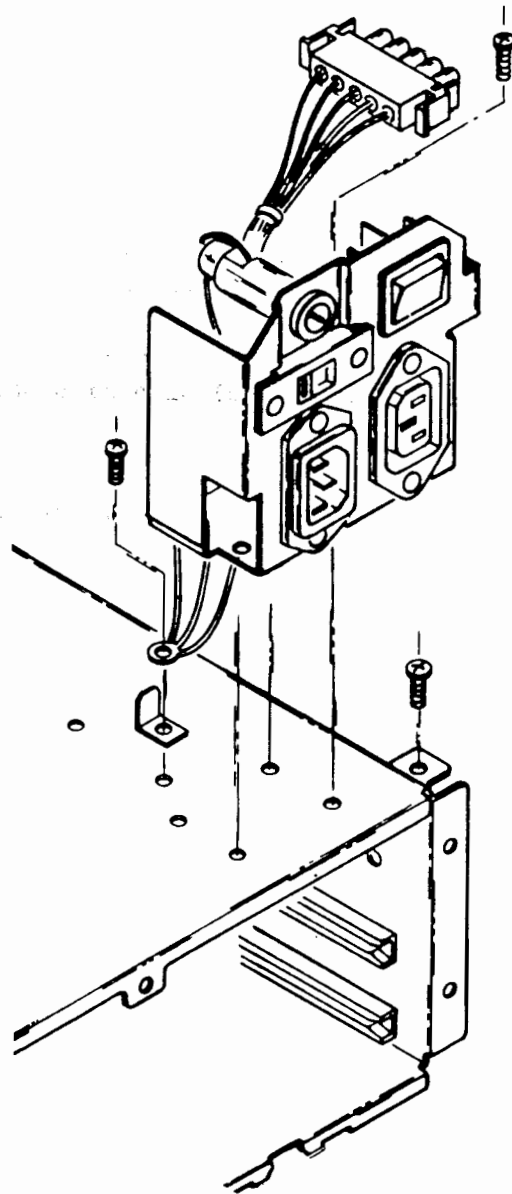

Figure 8-17. Removing the Power Panel
3. Using a Phillips-head screwdriver, remove the four screws securing the power panel to the card cage (see figure 8-17). Remove the screw securing the three ground wires to the card cage.